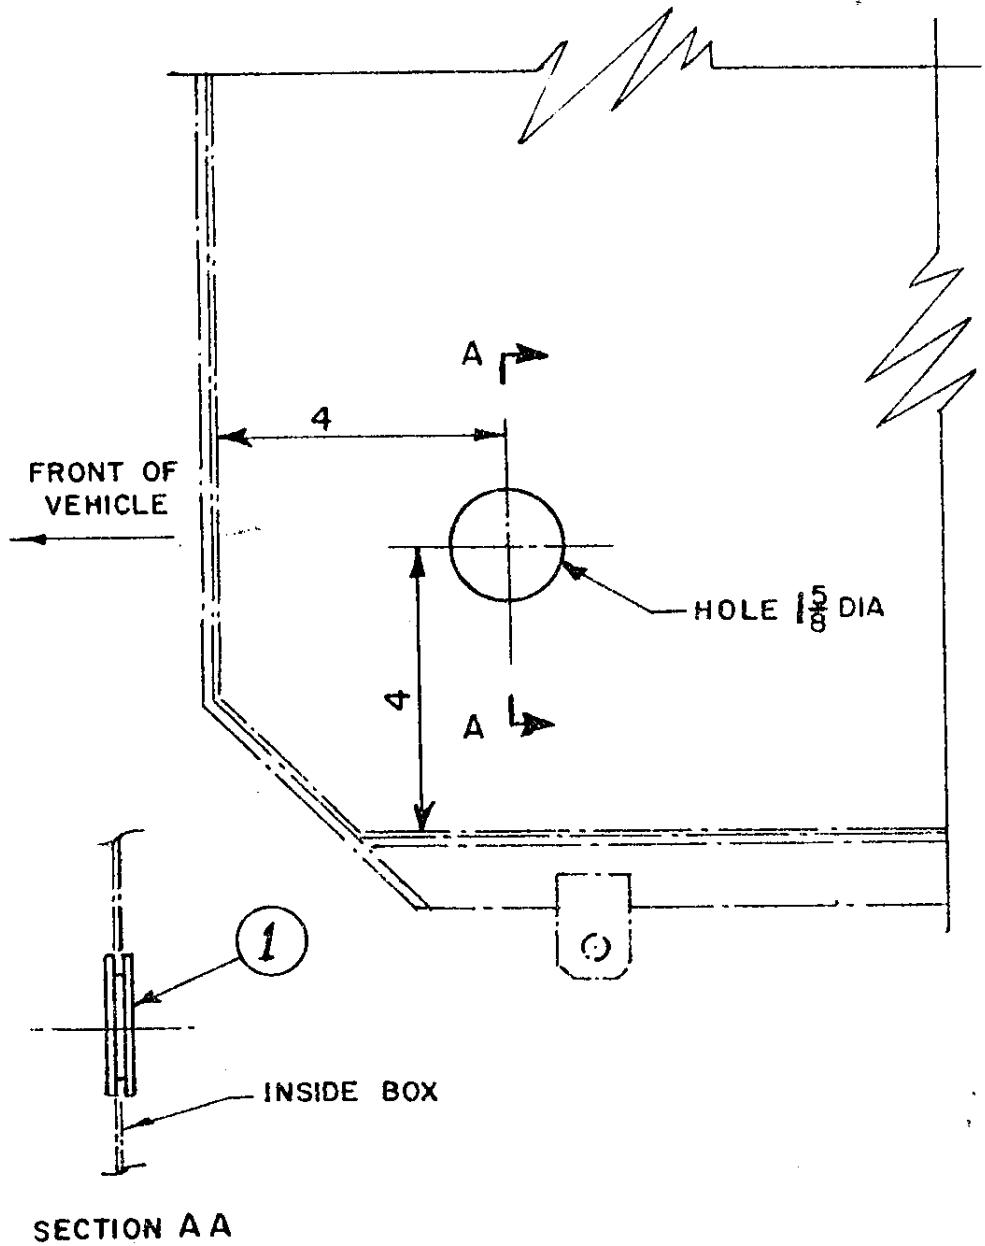

FIG 1 - TOOL BOX MODIFICATION
8. (a) Mark out and drill hole as detailed in fig 1.